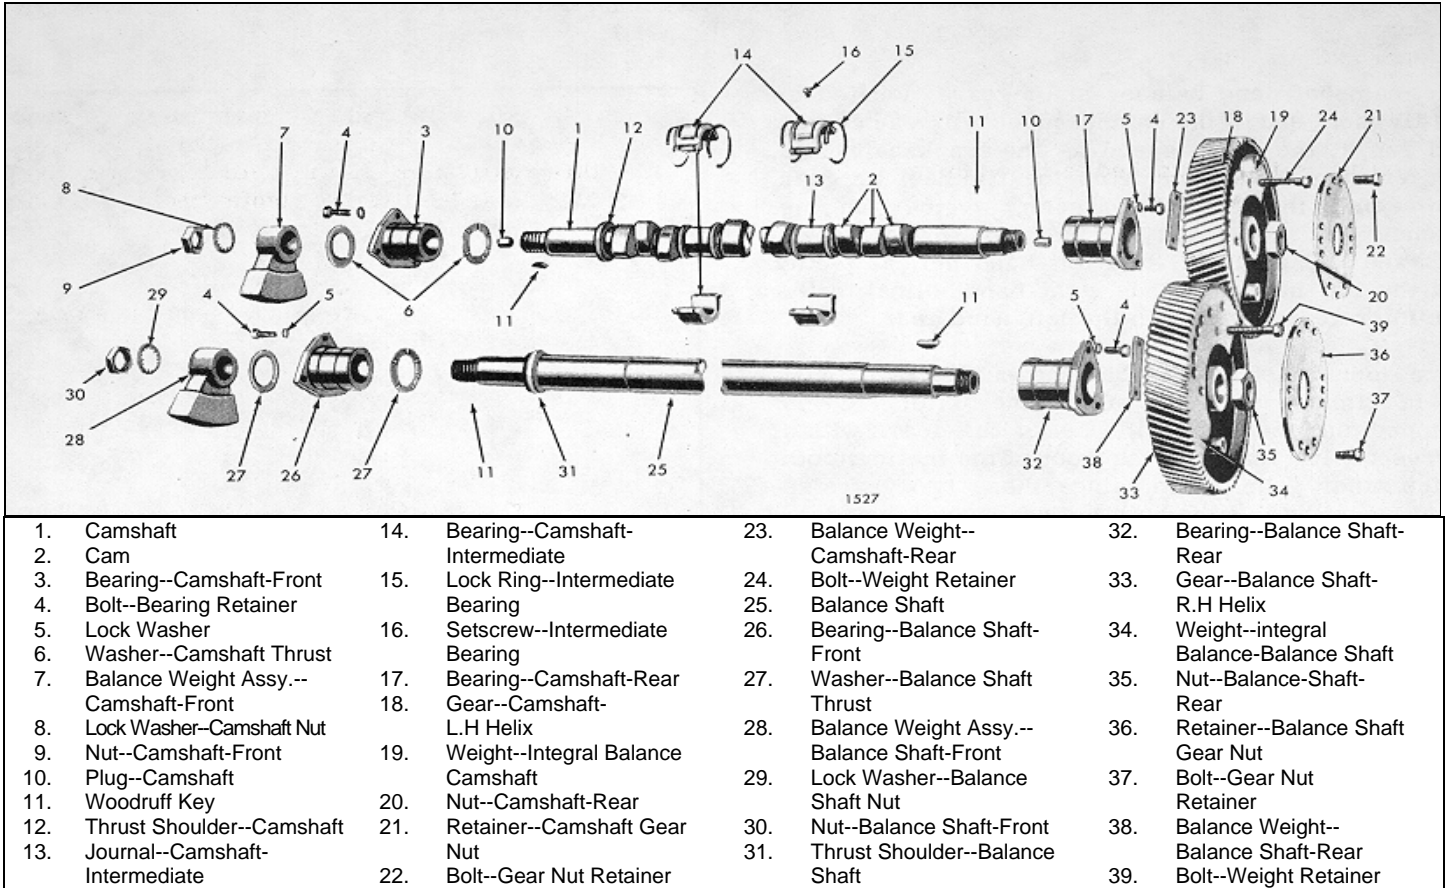

Fig. 8 - Typical Camshaft and Balance Shaft Details and Relative Location of Parts
- Start the balance weight retaining nut and lock washer on the camshaft (Fig. 8). Place a wood block between the balance weights (Fig. 3). Tighten the gear retaining nut; then, tighten the balance weight nut to 300-325 lb-ft torque.